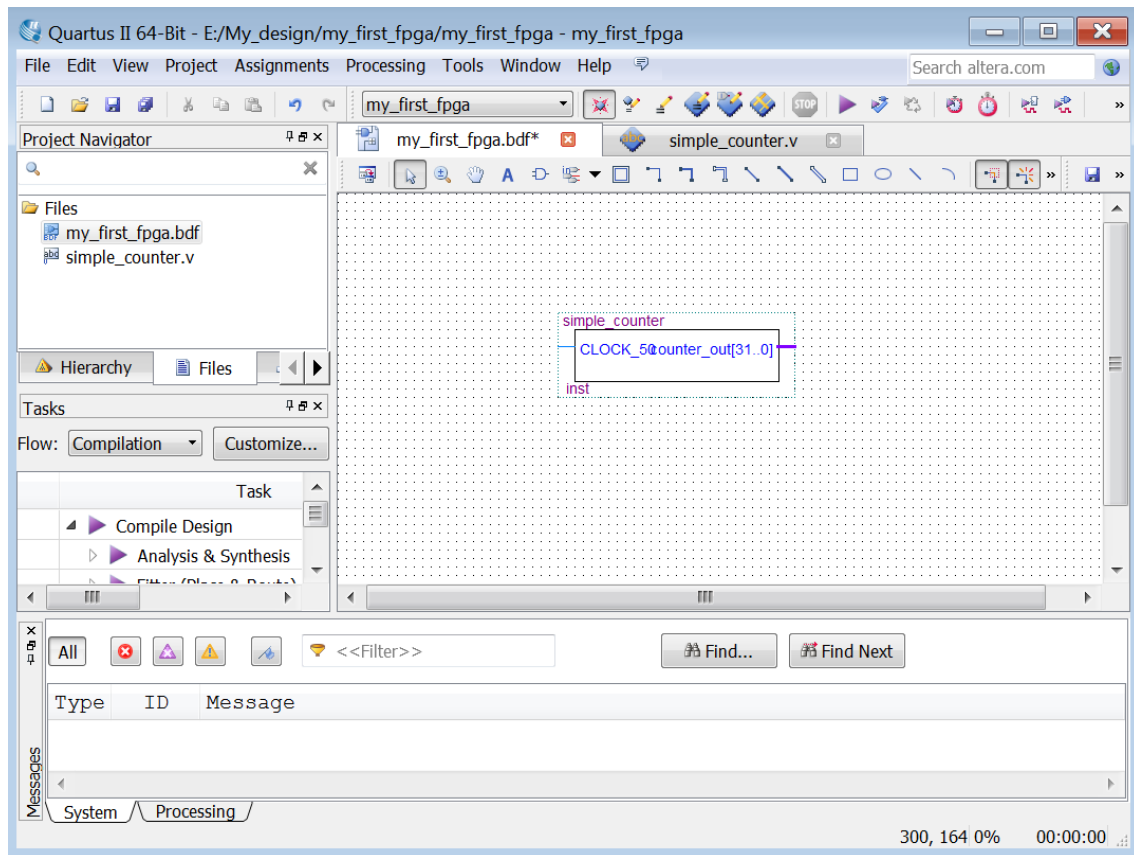

Figure 3-6 Placing the simple_counter symbol
17. Move the cursor to the BDF grid; the symbol image moves with the cursor. Click to place the `simple_counter` symbol onto the BDF. You can move the block after placing it by simply clicking and dragging it to where you want it and releasing the mouse button to place it. See Figure 3-6.